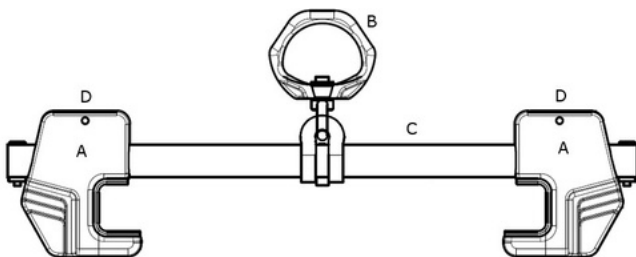

Figure 1: Key components of beam anchor.
4.1 KEY COMPONENTS: Refer to Figure 1 for identification of key components of RTZSA09 beam anchor.